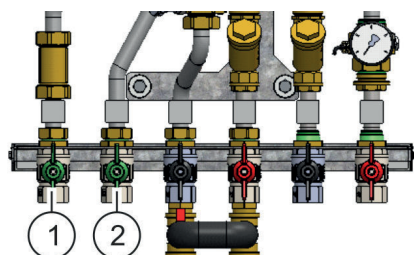

Fig. 31: Opening the fresh water ball valve
4. ➤ Slowly open the main supply line for cold water (Fig. 31/1).
5. ➤ Open the hot water distribution connection (Fig. 31/2).